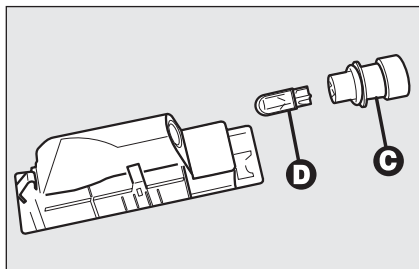

fig. 41
- remove the bulb holder **C-fig. 41** by turning it slightly and replace the snap-fitted bulb **D**.